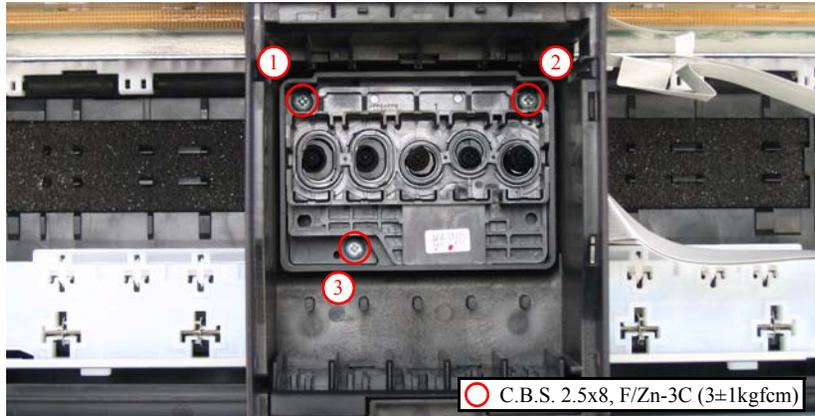

Figure 4-29. Removing Printhead (3)
- Tighten the screws in the order given in Figure 4-29.